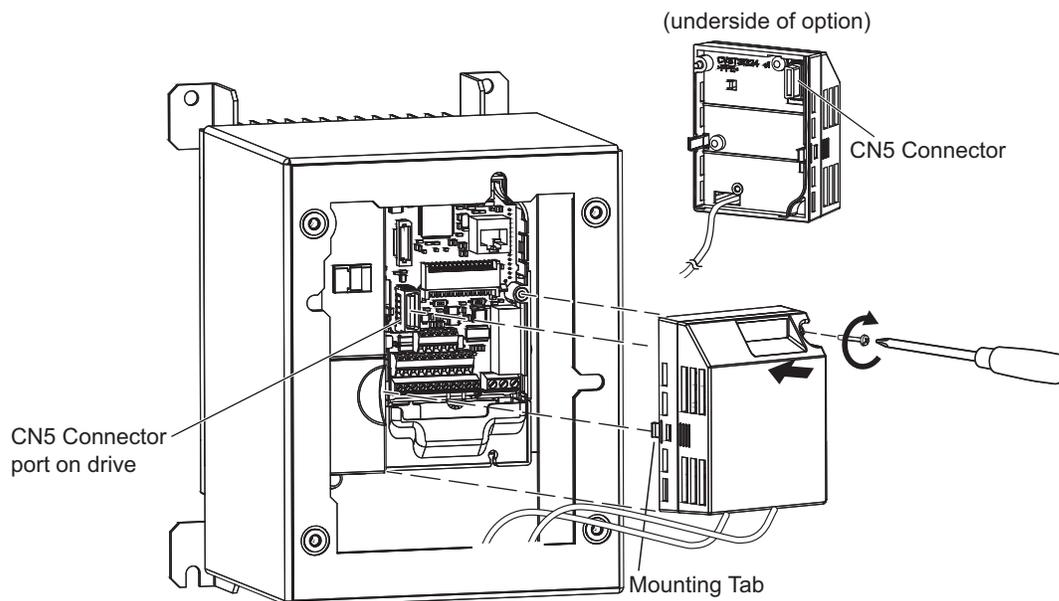

Figure 36 Attach Option Unit to Drive
12. Attach the option unit to the drive by aligning the two mounting tabs on left and right side of the option with slots on the drive. Plug-in the CN5 connector on the back of the option unit into the CN5 connector on the drive. Tighten the screw in the front of the option unit. Figure 36.